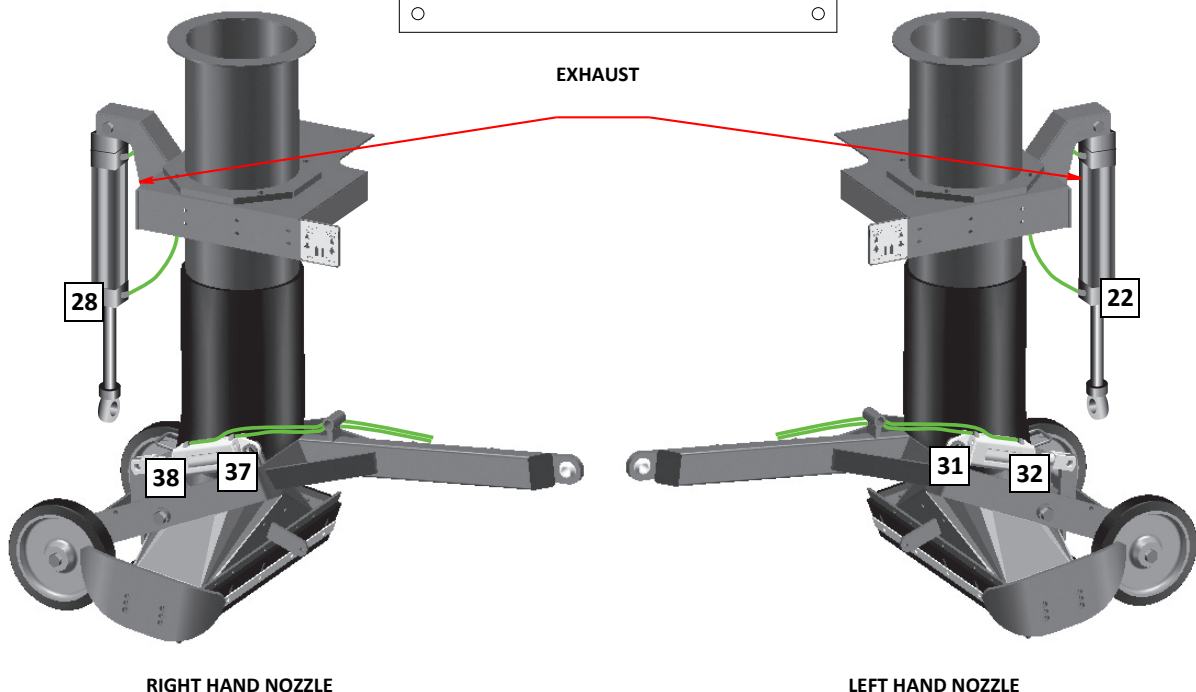

Figure 18 - Suction nozzle piping
2. The correct pipes are marked (37) and (38) for the left hand tilt cylinder, (31) and (32) for the right hand cylinder. The pipes for the left hand raise cylinder are marked (22), and for the right hand cylinder (28). If no marking is visible, identify them at their bulkhead connectors, Refer to Figure 18.
3. insert them into the cylinder connectors, Refer to Figure 18. Ensure pipes are inserted fully.